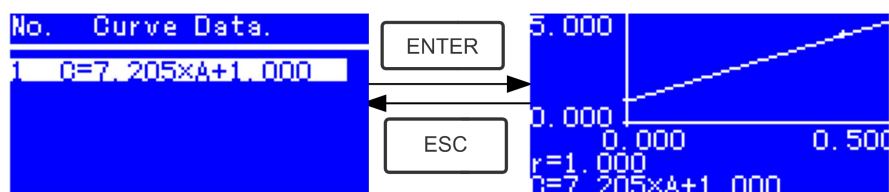

Fig. 4-14
- ★ Move the cursor on the equation that you need and press ENTER to confirm. Then the corresponding curve will display on the screen. (Fig. 4-14)